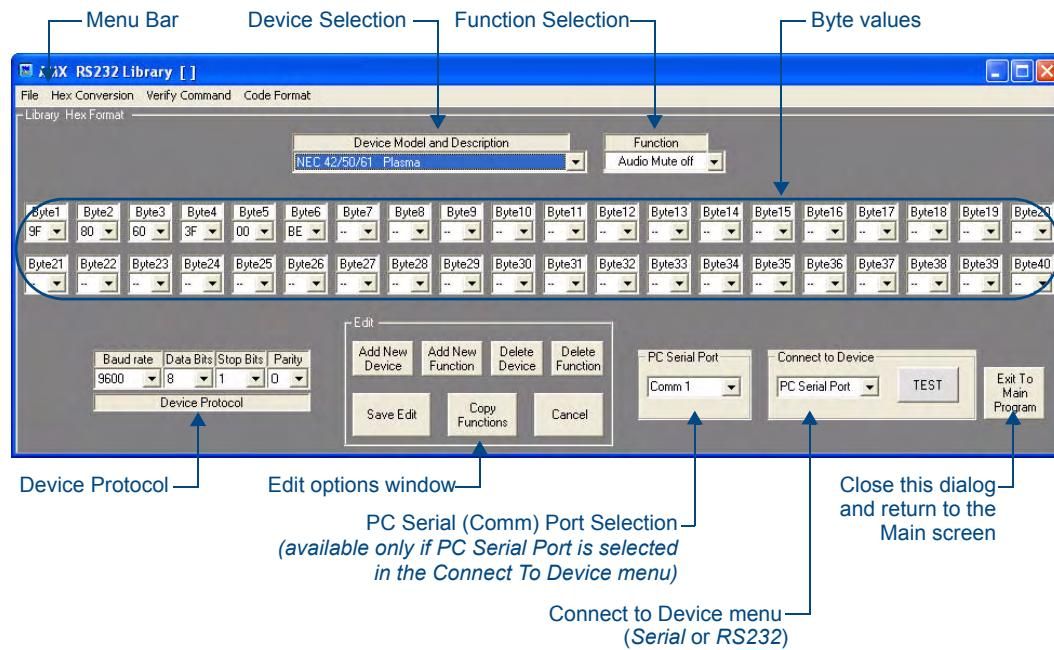

FIG. 34 AMX RS232 Library dialog
To view the RS232 libraries, open the RS232 window then click the **View RS232 Library** button to open the *AMX RS232 Library* dialog (FIG. 34).
- Click the **Add New Device** button in the *Edit* options (see FIG. 34) to invoke the *Add New Device* window (FIG. 35).